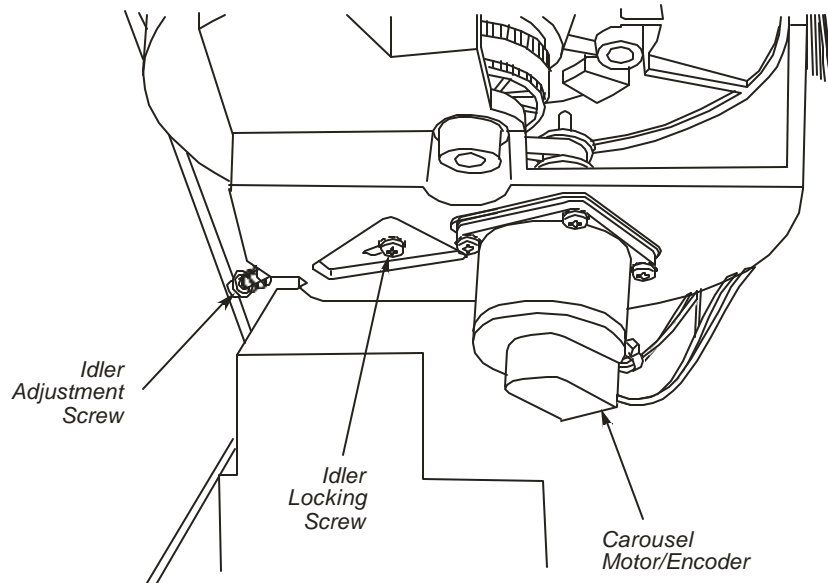

Figure 6- 8 Location of the Carousel Motor, Idler Adjustment Screw, and Idler Locking Screw
2. Loosen the idler locking screw located on the underside of the instrument top next to the carousel motor (Figure 6- 8).
3. Remove the idler adjustment screw, the compression spring and the two flat washers (see Figure 6- 8). This reduces the tension on the belts connected to the idler pulleys.